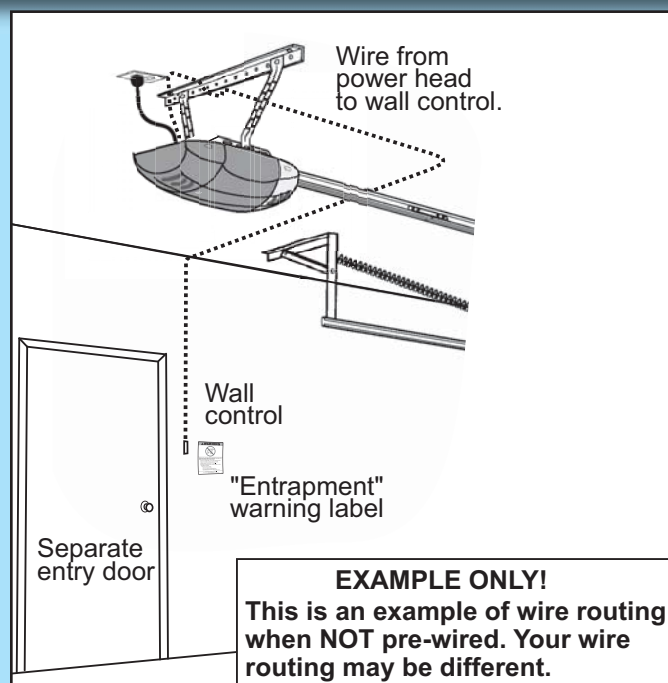

FIG.3-1 Wall control wire routing
- Locate wall control pre-wired wire ends (**Fig. 3-1**). (They should be located within the guidelines mentioned above.)
- Pick a convenient location for mounting wall control using the guidelines mentioned above. (**Fig. 3-1**)
- Run wire from wall control to power head (**Fig. 3-1**).